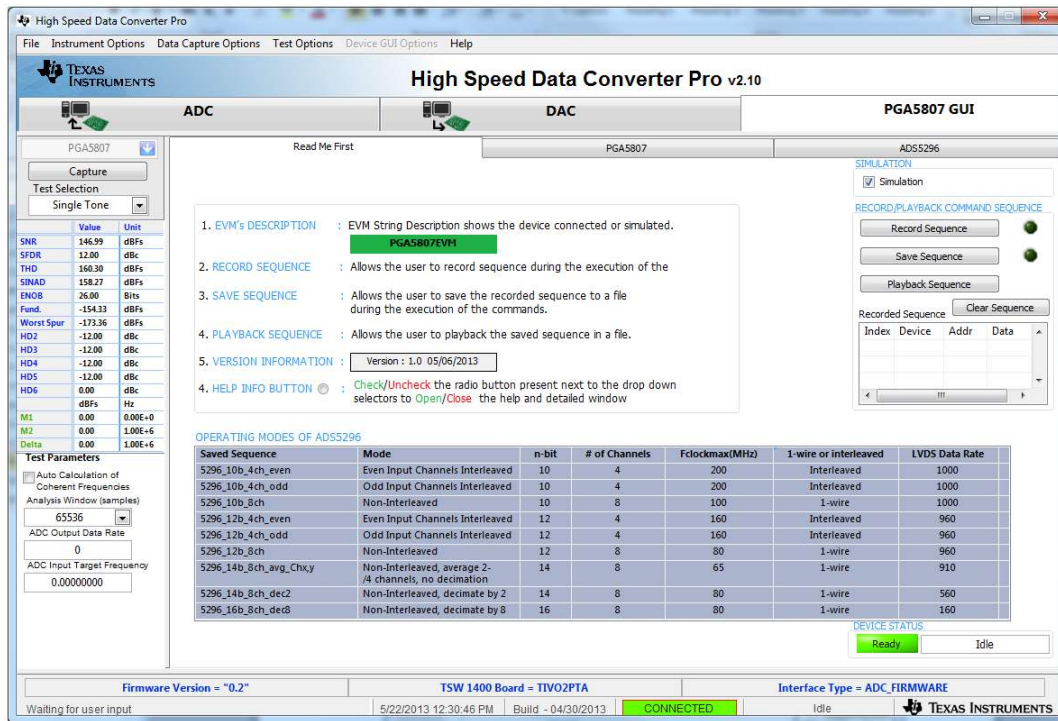

Figure 29. PGA5807 Plug-in GUI Setup (h)
- Click on the tab *PGA5807 GUI* to view the software GUI for the PGA5807. The GUI consists of three tabs: *Read Me First*, *PGA5807*, and *ADS5296* as shown in Figure 29.